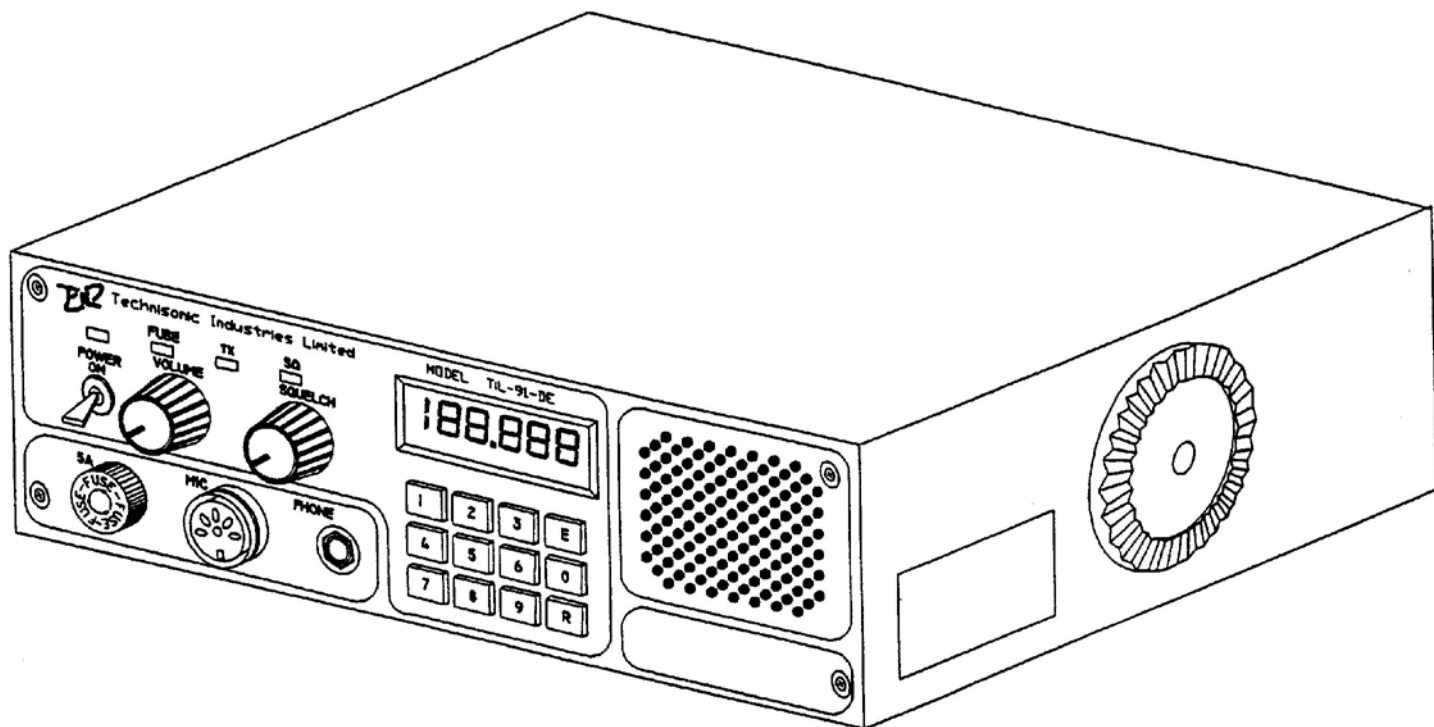

Figure 1-1 91-DE Transceiver - General View
- (1) Intended Purpose and Use - The system is intended for installation in airport service vehicles, such as cars, snowplows, and grass cutters, to allow ground control over such vehicles while they are negotiating aircraft manouvering areas.
- (2) Brief Description of System Units - VHF/AM Mobile Transceiver System 910200 Opt. 8.33 consists of the following items:
- (a) Transceiver Model 91-DE, Part Number 901006-2, Opt.8.33 is a low power VHF/AM transceiver which operates in simplex and allows quick keypad access and LCD display of the frequency range 117.975MHz to 138.000MHz with 8.33 and 25 kHz channel spacing. The transceiver operates from a 12 volts dc nominal vehicle power supply (negative ground only). A general view of the transceiver is given in Figure 1-1. The transceiver is normally located under the dashboard of a vehicle using a mounting bracket and mounting hardware.